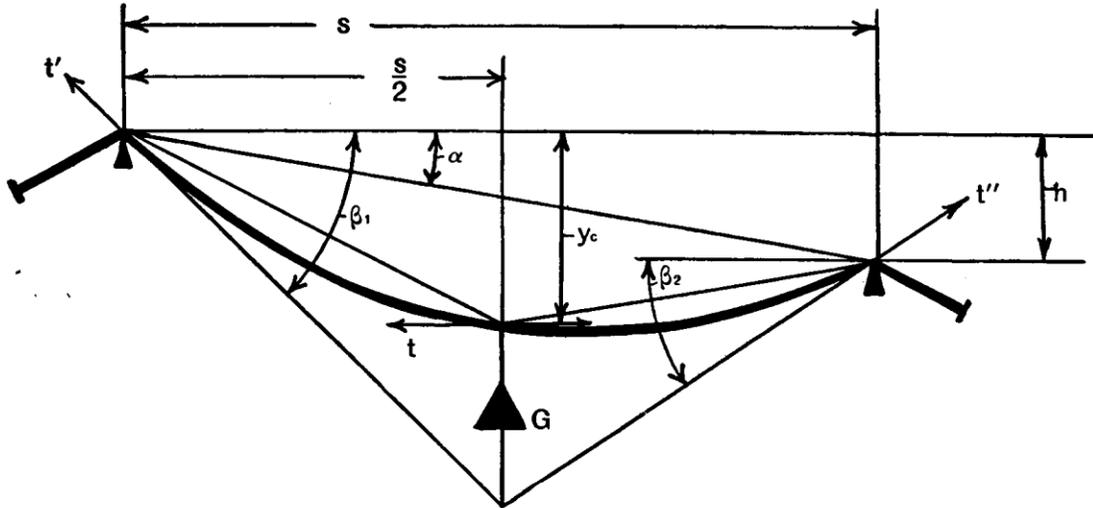

Figure 5
If the chord is inclined, similar to Fig. 5, then the center deflection is found by adding  $\frac{h}{2}$  to (26). Then: